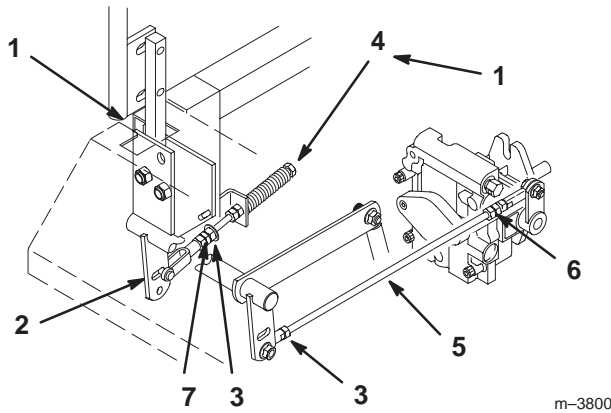

Figure 42
2. Begin with either the left or right motion control lever. Move lever to the neutral (but not locked) position and pull lever back until the clevis pin (on arm below pivot shaft) contacts the end of the slot (just beginning to put pressure on spring) (Fig. 42).
3. Check where lever is relative to notch in console (should be centered allowing lever to pivot outward to the neutral lock position) (Fig. 42).
4. Loosen locknut at ball joint on pump control rod (Fig. 42).
6. Adjust pump rod length by rotating double nuts on rod, in the appropriate direction, until wheel is still or slightly creeps in reverse (Fig. 42).